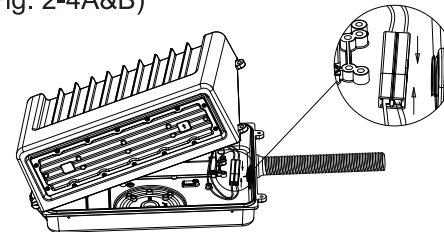

Fig. 2-4A
4. Connect the quick connect terminal, then screw the fixture with bottom plate.(Fig. 2-4A&B)